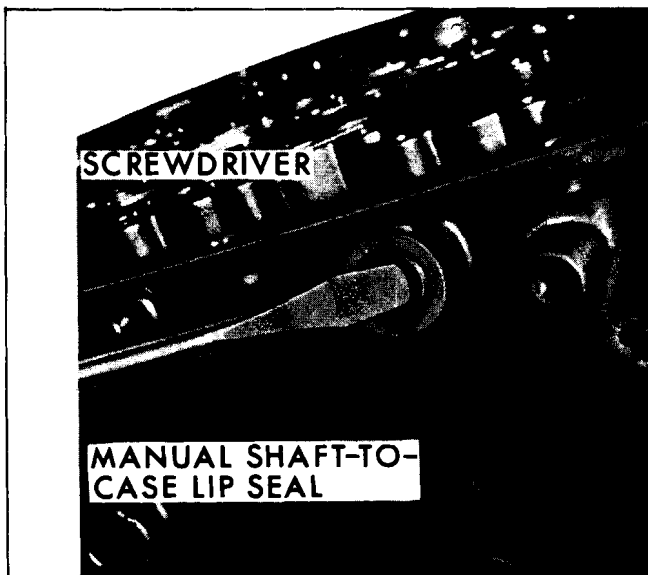

Fig. 7G-56 Removing Manual Shaft Oil Seal
18. If necessary to replace the disengaging spring, parking pawl shaft and/or parking pawl, remove the parking pawl shaft retaining plug stake marks, plug, shaft, parking pawl and disengaging spring from the transmission case (Fig. 7G-43).